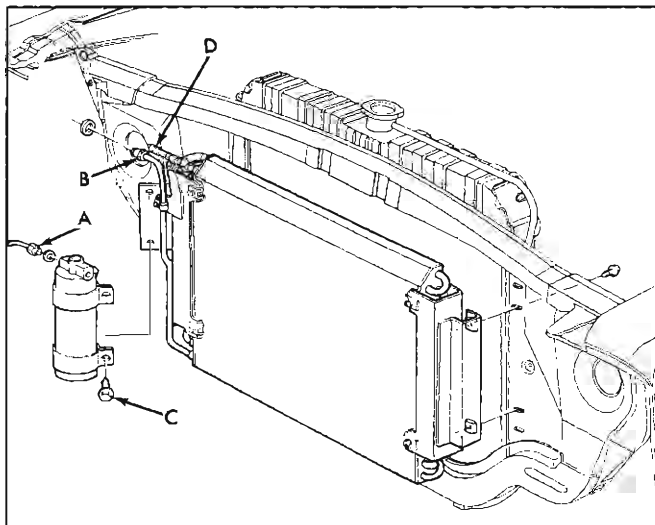

Fig. 8—Condenser
2. With the system purged of refrigerant, disconnect the inlet hose clamp connection at "D," Fig. 8; the receiver-dehydrator "O" ring outlet connection at "A" and the four condenser to radiator support attaching screws.